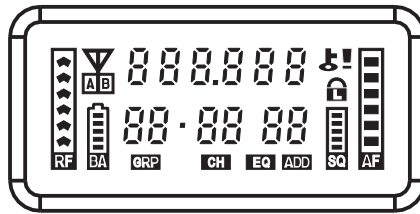

Fig.12
2. Lightening VFD Screen. Fig. 12: